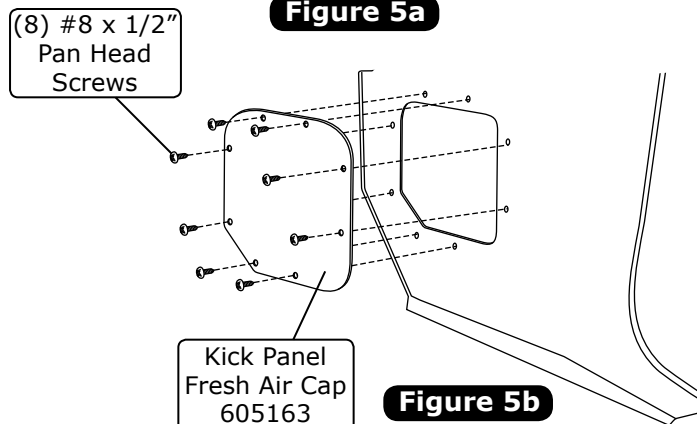

Figure 5b
3. Install the kick panel fresh air cap onto the kick panel using (8) #8 x 1/2" pan head screws as shown in Figure 5b, below.